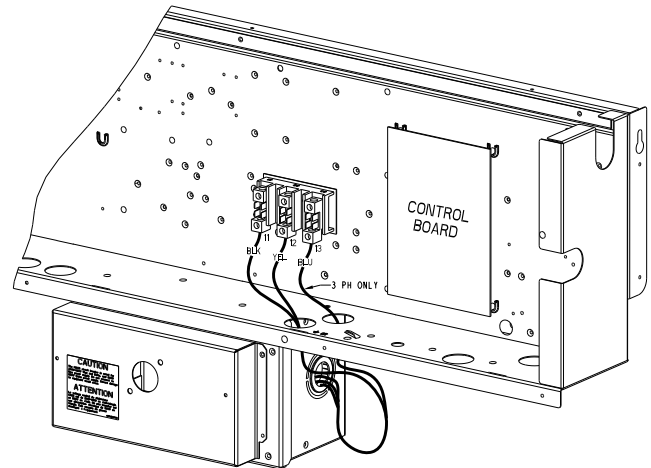

Fig. 21 — HACR Enclosure Location
- Remove the Control Box access panel. The HACR enclosure is located below the Control Box (see Fig. 21).